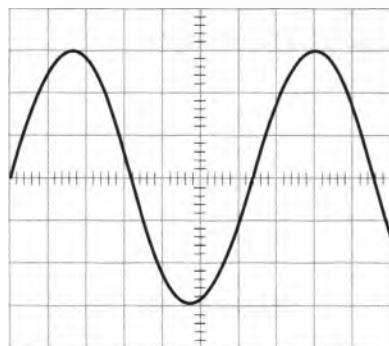

Figure 11
1. What is the period of the sinewave in Figure 11 below if the *Horizontal Sweep* control is set to $0.5\mu\text{s}/\text{division}$?
1. What is the frequency of the signal in Figure 11?